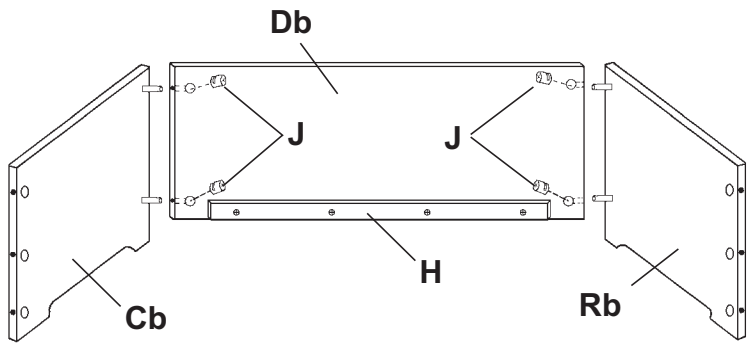

Fig. 2
2. Attach each side (Cb & Rb) to the Back (Db) with two Cam Housings (J). The sides are taller than the back so they will extend below the back. See Figure 2.